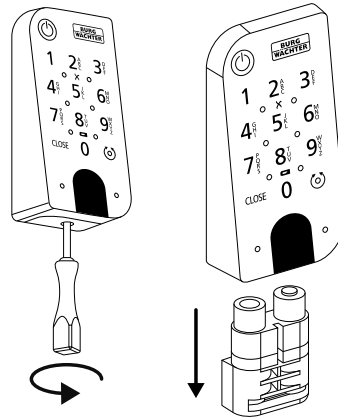
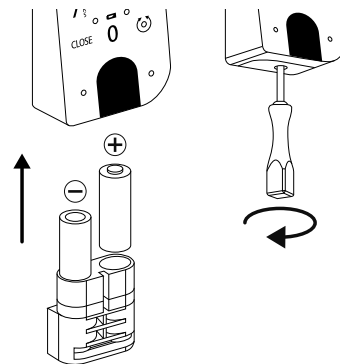

Fig. 123
Fig. 124
① Remove the screw from the bottom of the keypad using the Tx8 screwdriver supplied with the keypad and pull the battery compartment downwards (Fig. 123).
② Remove the old batteries and dispose of them appropriately.
③ Insert two new batteries. Make sure that the polarity is correct according to the drawing (Fig. 124).
Insert the battery compartment back into the housing and screw it tight (Fig. 124).